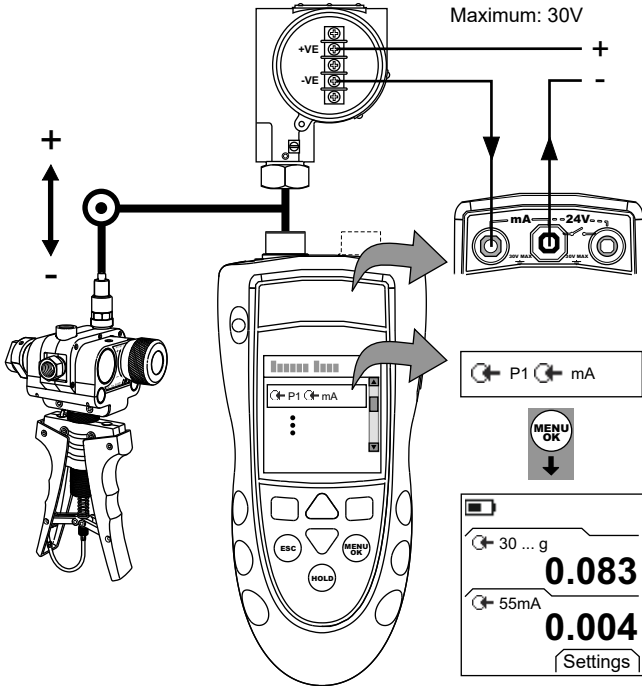
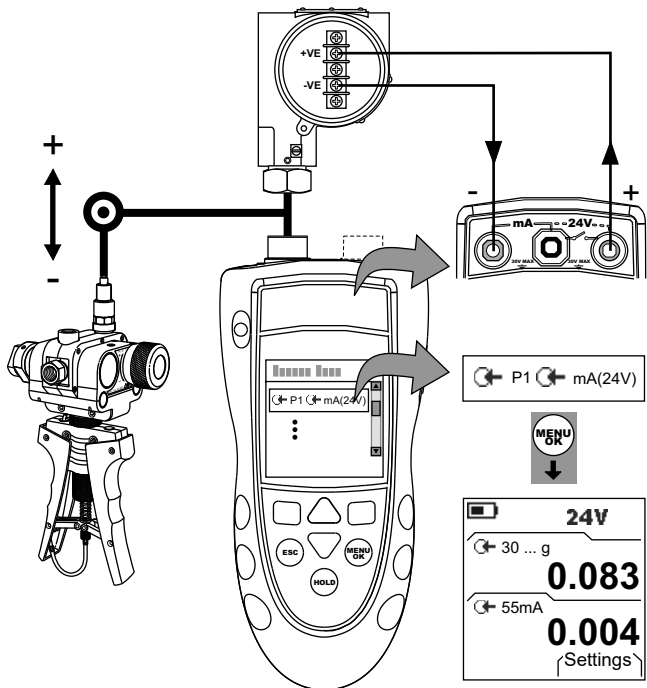

Figure 5: Example Configuration - Transmitter Calibration with External Loop Power
Figure 6: Example Configuration - Transmitter Calibration with Internal Loop Power
1. Connect the instrument (Figure 5 or Figure 6) and, if necessary, adjust the *Set Up* (Table 1).